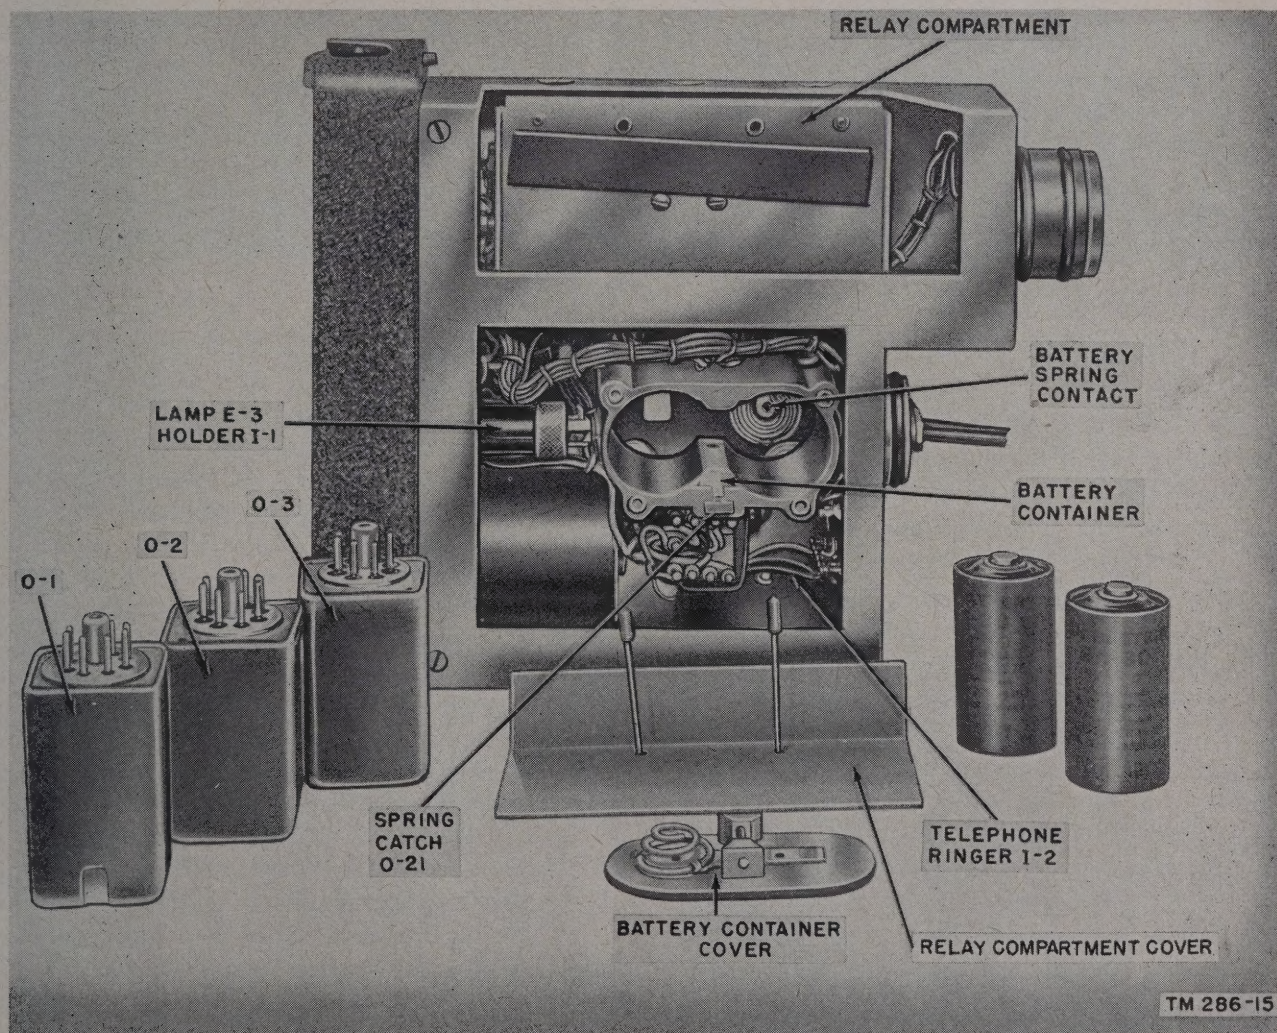

Figure 35. Local Control C-434/GRC, bottom view of chassis.
- (2) To install the batteries, place the panel-chassis assembly bottom side up and release the catch holding the battery compartment cover in place. Remove the cover (fig. 35).
- (3) Install one Battery BA-30 so that the outer metal base rests on the spring on the floor of the container.
- (4) Install the other Battery BA-30 so that its base faces up, and the center electrode (the positive terminal) rests against the flat battery contact on the floor of the compartment.
- (5) Replace the compartment cover, making sure that the batteries make proper con-